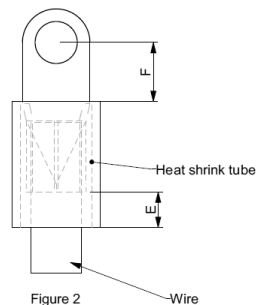

Figure 2
- Wire should be crimped into UL compliant ring lug before putting on the insulated heat shrink tube, which is UL and CSA compliant, 600Vac voltage withstand, YUPU2, please refer to Figure 2 for the specifications of the heat shrink tube.